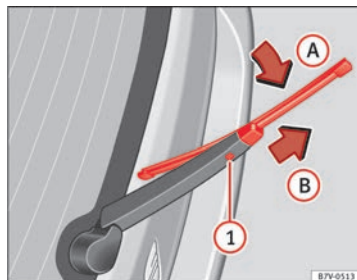

Fig. 161 Changing the rear wiper blade
- Pull the wiper blade out of its mounting on the wiper arm ⇒ Fig. 161 (arrow A).
- Hold down the release button ① while gently pulling the blade in the direction of the arrow B. This may require some strength. ▶
- Insert a new blade of the **same length and type** in the wiper arm in the opposite direction to the arrow (B) and hook into place. This feature is operational when the knob is in position (arrow (A)).